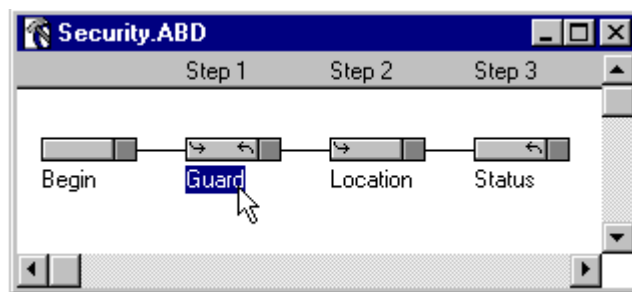
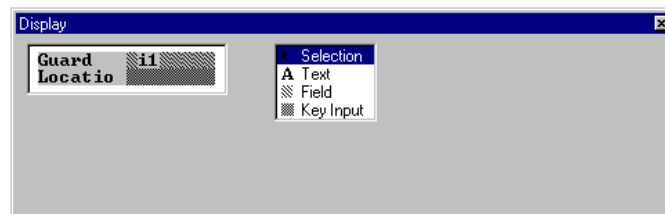

Figure 3-62 Security Application - “Guard” Handler
Figure 3-63 “Guard” Handler Display
53. Click the “Guard” Handler (Figure 3-62) to select it. The generated display is shown in the **Display** window (Figure 3-63). The generated display shows the guard entry on the first line and asks for a location entry on the second line.